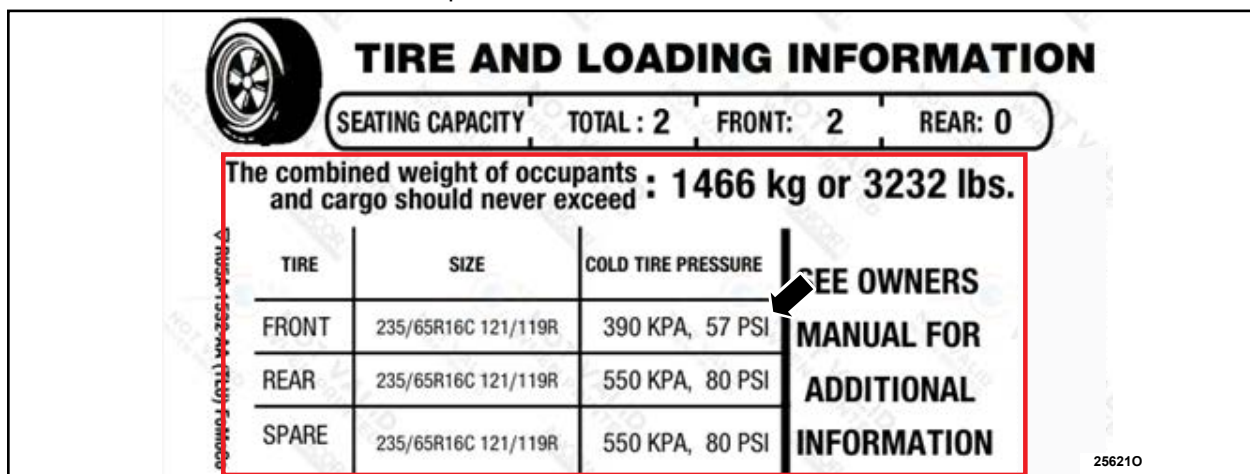

FIGURE 1
1. Inspect the TREAD Act label found on the driver-side door jamb. Does the TREAD label have the correct Vehicle Identification Number (VIN) and *front tire pressure of 57 PSI as shown in Figure 1?*
3. Confirm the VIN on the vehicle matches the VIN on the *new* labels being installed. See Figure 1.